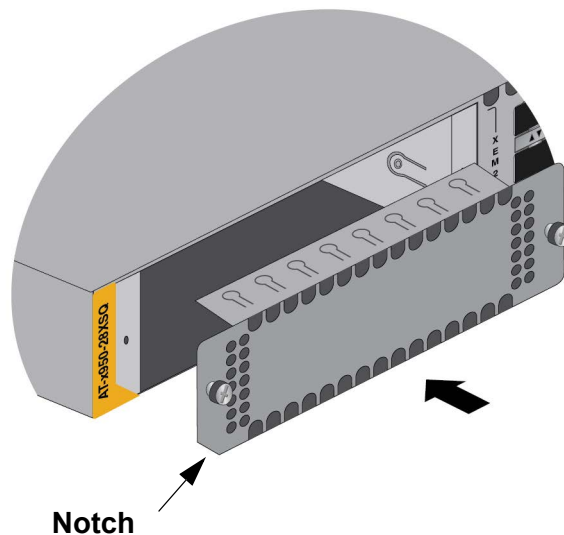

Figure 142. Installing the Line Card Blank Cover
9. Orient the blank cover as shown in Figure 142, with the notch on the bottom left, and slid it into the slot.